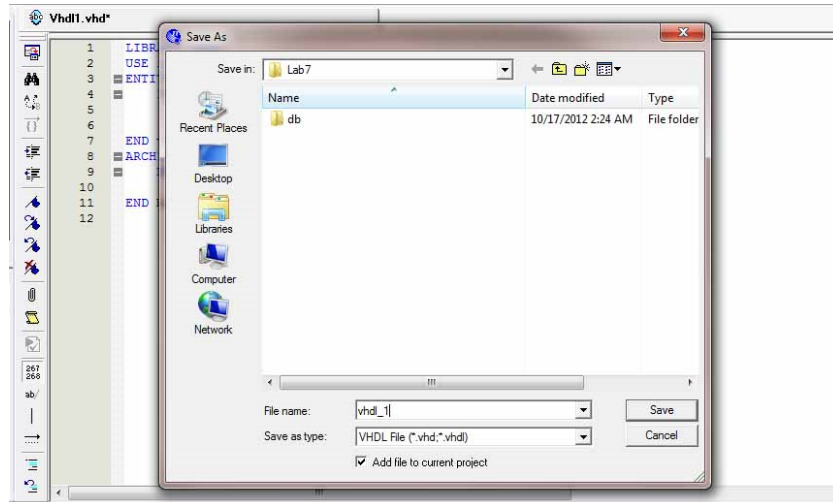

Figure 7-3
3. Save the VHDL file as **vhd1_1.vhd** as part of our project under your subfolder. Place a check mark in the space labeled Add file to current project and press Save (See Figure 7-3).